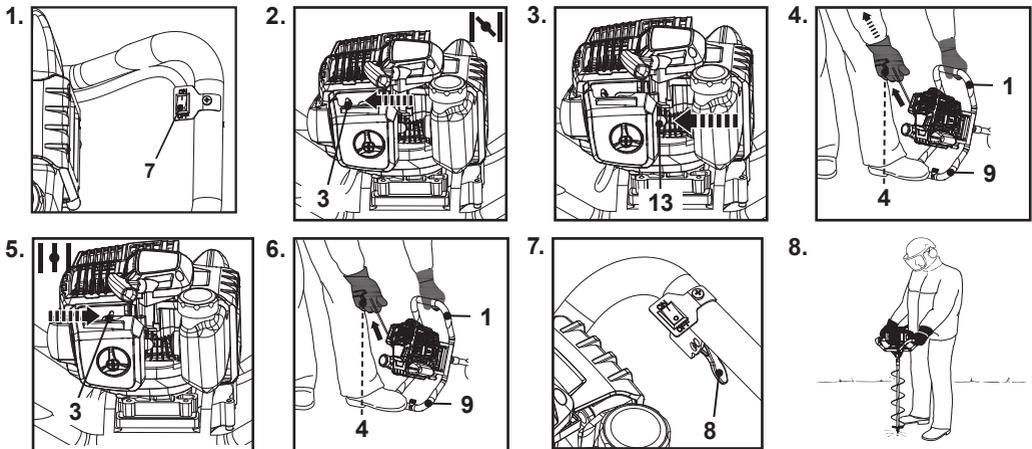

Fig. 8
1. Set the ignition switch (7) on at "I" position (Fig. 8, step 1).
2. Push the choke lever (3) all the way to the left, and the choke lever (3) is now at CLOSE position (Fig. 8, step 2).
3. Press the primer (13) 10 times until the bubble is filled with fuel (Fig. 8, step 3).
4. Place your left foot onto the right handle bar (9) and step down firmly on the ground, then hold the product firmly with your left hand on the left handle bar (1). Your thumb and fingers shall grasp the handle.
5. Pull the recoil starter handle (4) lightly with your right hand until hearing a blasting sound (it usually needs 4 pulls) (Fig. 8 step 4). At this stage the engine still should not start.
6. Push the choke lever (3) all the way to the right, and the choke lever (3) is now at OPEN position (Fig. 8, step 5).
7. Pull the recoil starter handle (4) rapidly with your right hand until the engine starts (Fig. 8, step 6).
10. Squeeze the throttle trigger (8) to accelerate the engine (Fig. 8, step 7). The drilling tool runs.
11. Operate the product with suitable clothing and a secure stance as illustrated (Fig 8, step 8).
2. Press the primer (13) 10 times until the bubble is filled with fuel (Fig. 8, step 3).
3. Push the choke lever (3) all the way to the right, and the choke lever (3) is now at OPEN position (Fig. 8, step 5).
4. Pull the recoil starter handle (4) rapidly with your right hand until the engine starts (Fig. 8, step 6).
5. Squeeze the throttle trigger (8) to accelerate the engine (Fig. 8, step 7). The drilling tool runs.
6. Operate the product with suitable clothing and a secure stance (Fig 8, step 8).